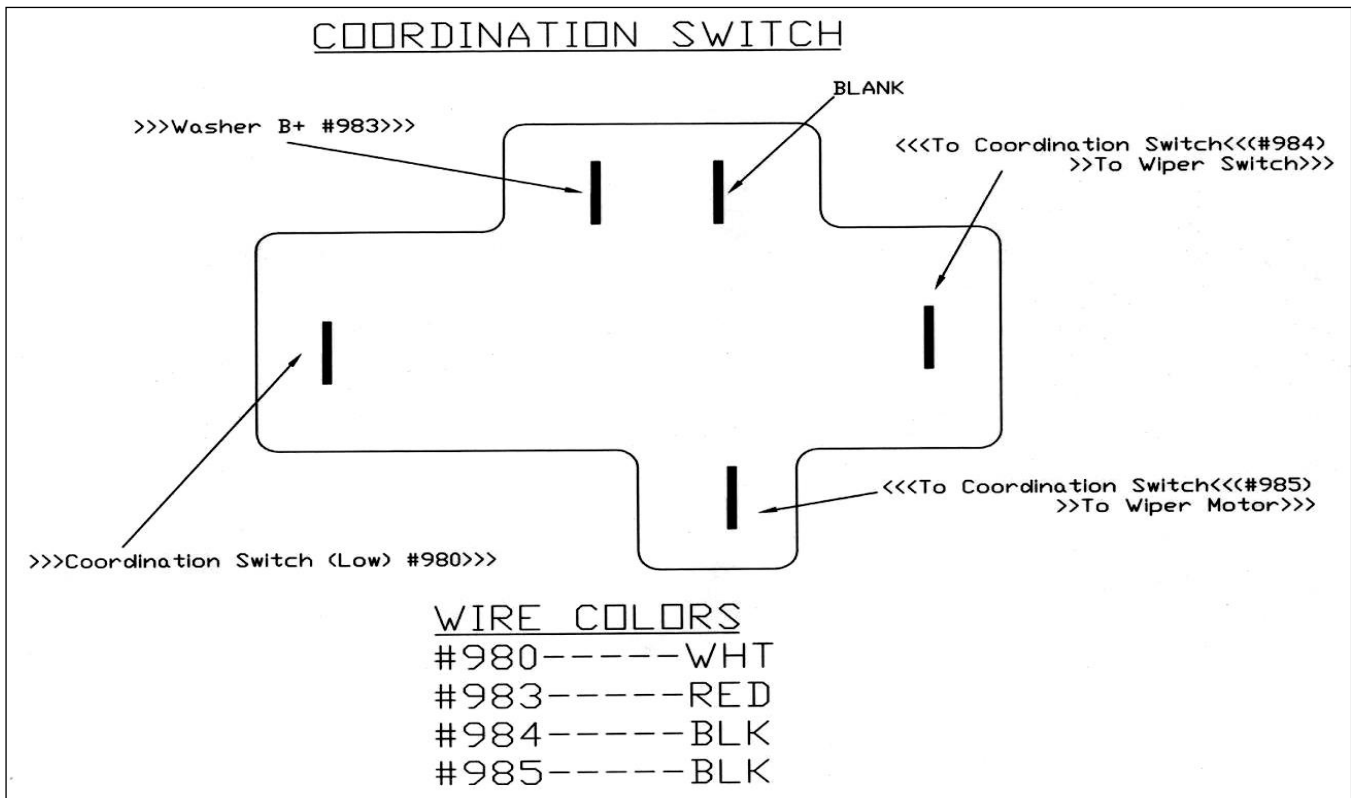

Figure 7-22 Coordination Switch
- 7.12.2** The connections for the Coordination Switch on the floor near the drivers kick panel are illustrated in **Figure 7-22**. The Coordination Switch wires and the Headlight Dimmer Switch wires are bundled together. After connecting the Coordination Switch wires, connect the following for the Dimmer Switch: Dimmer Switch B+ #907 to the center spade terminal, Dimmer Switch (Low Beams) #909 and Dimmer Switch (High Beams) #908 each to one of the outside spade terminals.